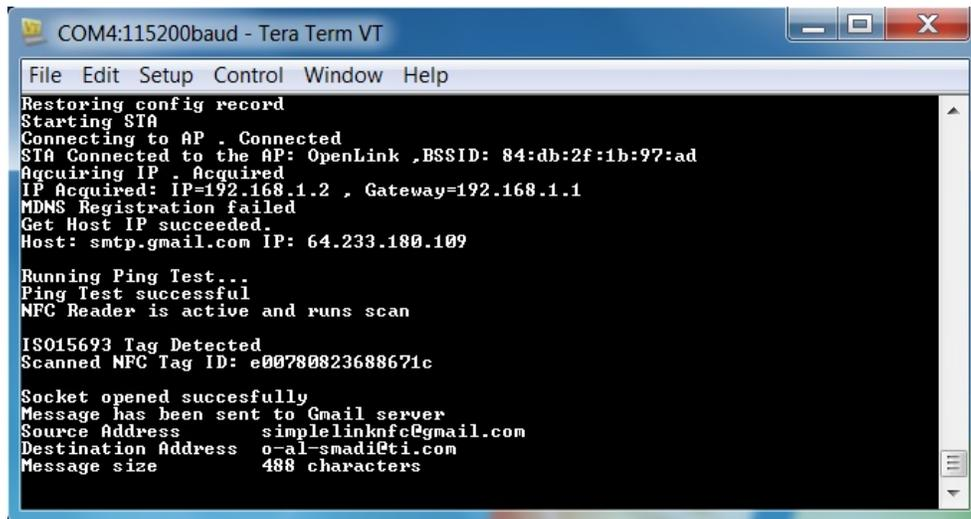

Figure 12. Tera Term Terminal When a Non-master Card is Detected
3. Verify that the tag has been read by opening and viewing the Tera Term terminal. (See Figure 12.)